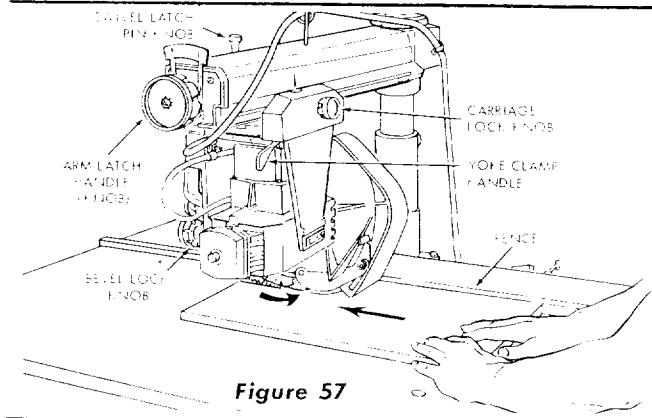

Figure 57
1. Ripping is the process of sawing the workpiece by feeding it into the saw blade *when using the fence as a guide* and as a positioning device to obtain the desired width of cut. (See figures 57 through 59.)
In-Ripping (See figure 57.) The radial arm and bevel are indexed at 0° and locked, but the yoke is turned 90-degrees in a clockwise direction (viewed from above) from the crosscut position. Thus, when standing in front of the saw, the blade would be rotating counterclockwise. After positioning the guard and anti-kickback mechanism the workpiece is fed from the right-hand side of the saw, as shown in figure 57. The "In-Rip" scale is on the right-hand side of radial arm.